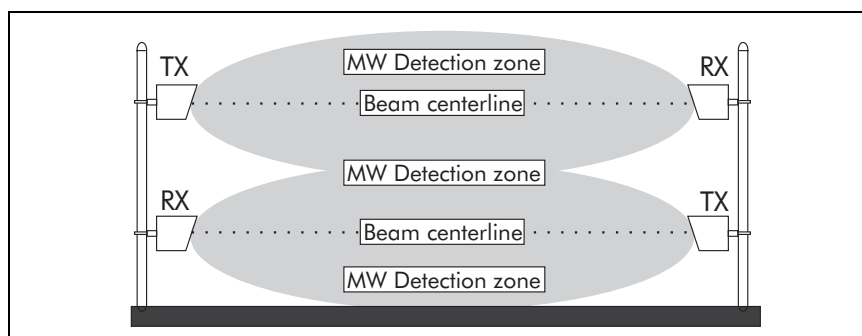

Figure a-8 Stacked standalone microwave detection zones
Bistatic microwave sensors have been used in security applications for many years. Typically, microwave sensors provide a detection zone with a limited height. One method of increasing the height of the detection zone is to stack two transmitter-receiver pairs, with one pair mounted above the other (see Figure a-8). This method of stacking microwave sensors can be used to detect bridging attempts made with ladders or other climbing apparatus.
3. For stand-alone (single zone) or perpendicular zone configurations, install one transmitter and one receiver on each post (see Figure a-8). Ideally, the two pairs fire in opposite directions.